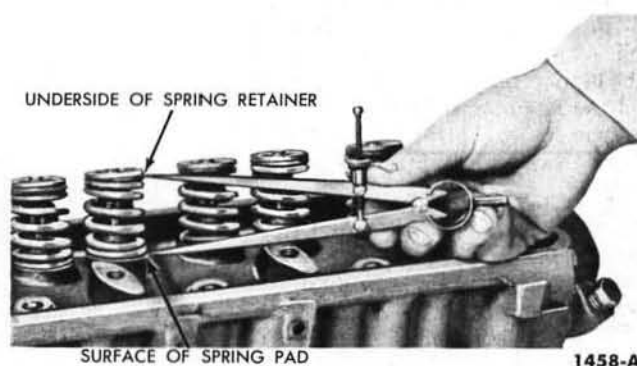

FIG. 19—Valve Spring Assembled Height
3. Measure the assembled height of the valve springs from the surface of the cylinder head spring pad to the underside of the spring retainer with dividers (Fig. 19). Check the dividers against a scale. If the assembled height is greater than  $1\frac{13}{16}$  inches, install the necessary 0.030-inch thick spacer(s) between the cylinder head spring pad and the valve spring to bring the assembled height to the recommended dimension of  $1\frac{29}{32}$ – $1\frac{13}{16}$  inches. **Do not install spacers unless necessary. Use of spacers in excess of recommendations will result in overstressing the valve springs which will lead to excessive load loss and spring breakage.**